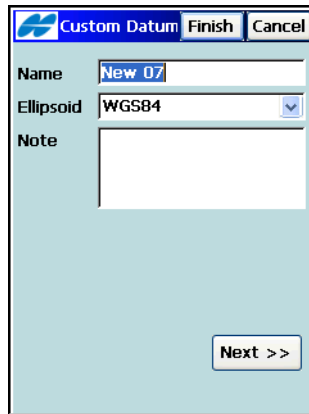

Figure 4-89. Custom Datum Name
3. On the next *Custom Datum* screen (Figure 4-89), enter the name of the new custom datum and select the ellipsoid for the datum from the drop-down list of the *Ellipsoid* field. Tap **Next**.